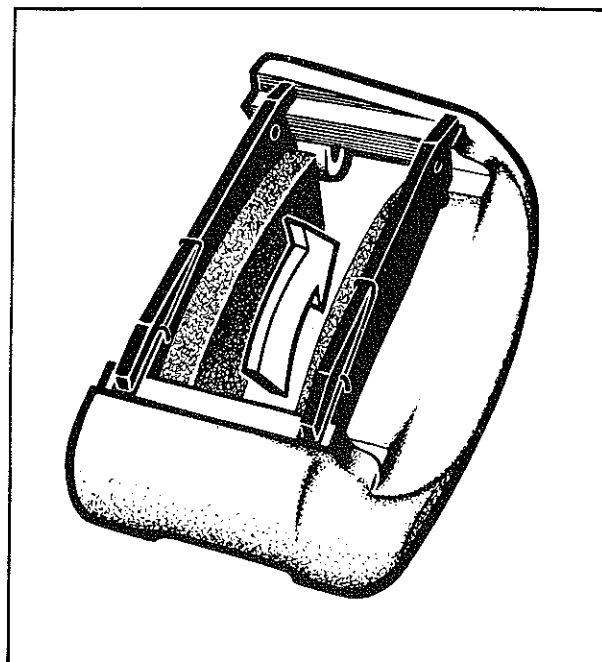

Fig. 4—Anti-rattle clip and pad installation
- (2) Install the pads to the support as shown in Fig. 4.
- (3) Push the piston back into the bore of the caliper. This may necessitate opening the bleeder to allow excess fluid to escape.